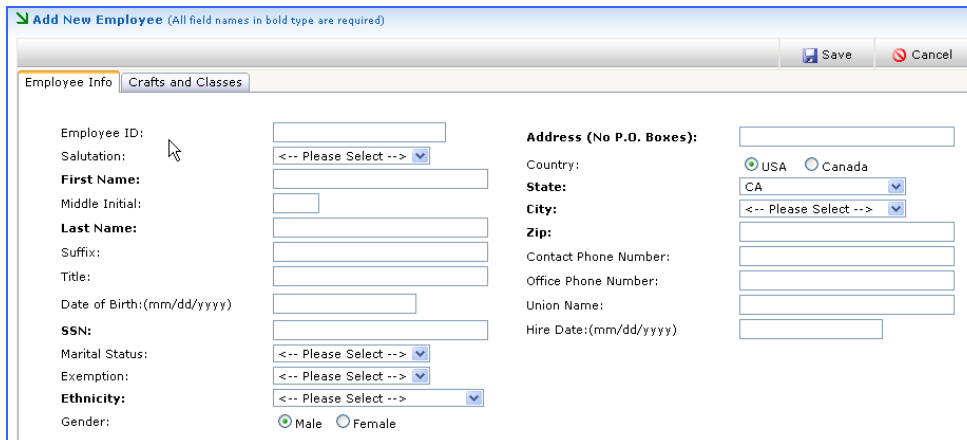

Figure 39 - Add Employee Screen
3. Add all the employee information (Figure 39).